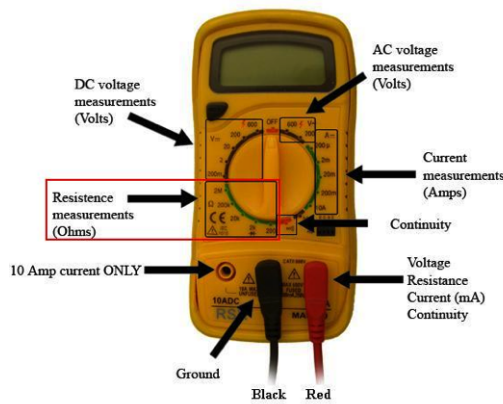

Figure 2.6: Digital Multimeter
1. Set the DMM to the Resistance or Ohms measurement setting, which is the region marked with " Ω ", "R" or "Ohms". Figure 2.6 highlights the Ohmmeter region for an RSR MAS830 DMM. Note that your DMM might be different than the one in the picture.
3. Connect the red probe to the jack marked "V Ω mA" as shown in Figure 2.6 (marked " Ω ", "R" or "Ohms").